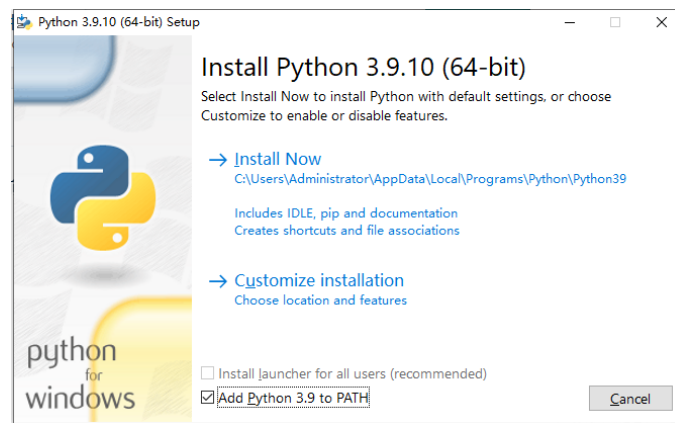

Fig. 1-1 Install Python 3.9.
- 1.1.1 Python 3.9 is necessary to run the code. Download from <https://www.python.org/downloads/> and follow the installation (Fig.1-1).